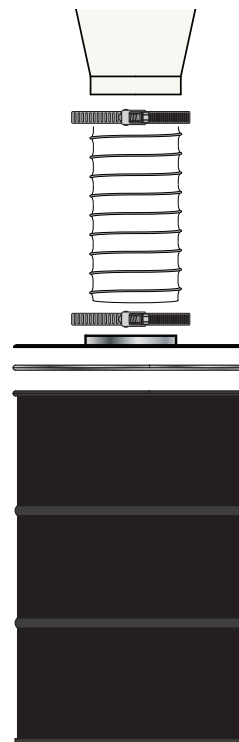

FIG. 16
If you purchased the Single Drum setup, attach the 10" Hose (W) to the Cone's (C) discharge, and secure it in place with the Hose Clamp (V). Position the Drum (Y) under the Cone and repeat the process to attach the opposite end of the Hose onto the Lid's Collared Inlet (X) [FIG. 16].